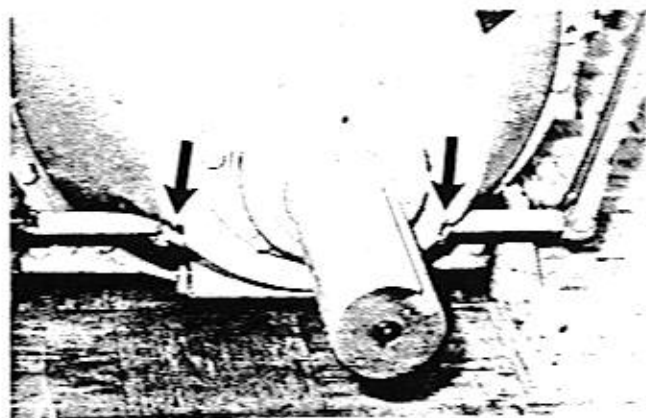

Figure 10-6
On each side of the clutch is a fitting to lubricate the operating shaft. Every 100 hours of operation lubricate each fitting with three (3) shots of MPG-EP grease. See Figure 10-6.